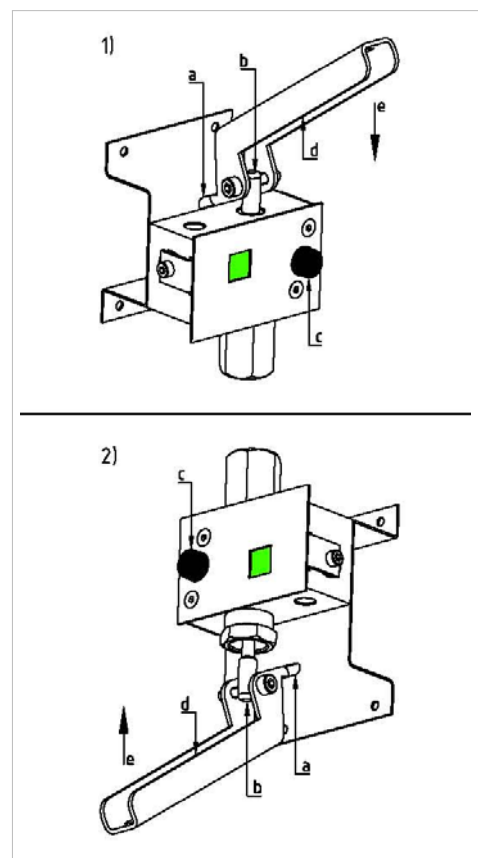

Figure 5: OPEN release RTC
1. Hook the clamping device in the provided recess (refer to Figure 5).